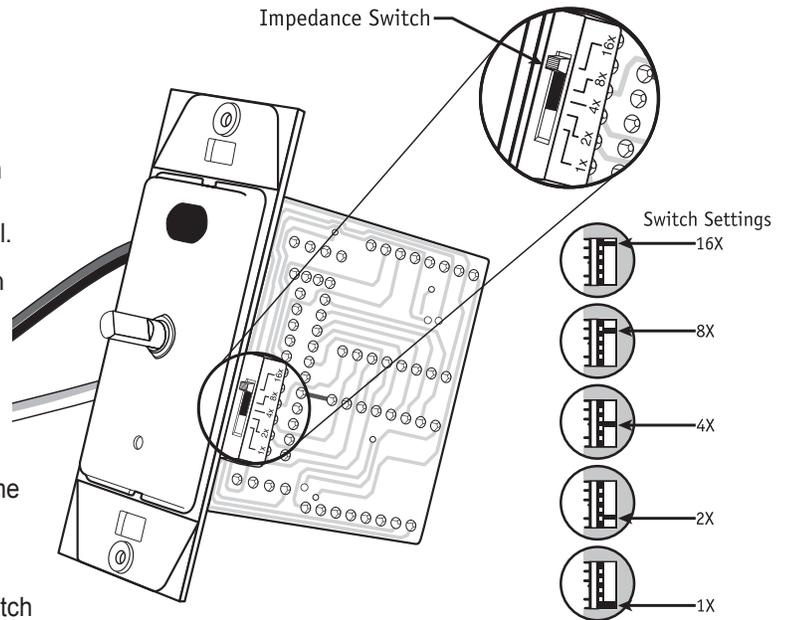

Figure 1
- Set the impedance match jumper switch on all of the volume controls in the system to the same position (1X, 2X, 4X, 8X or 16X). See Figure 1.